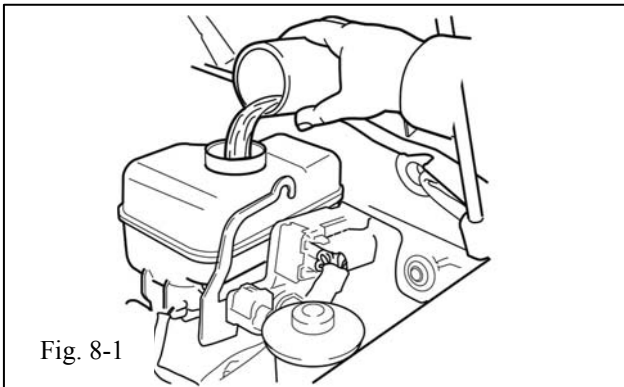

Fig. 8-1
- (a) Fill reservoir with brake fluid. Fluid: SAE J1703 or FMVSS No. 116 DOT3 (Fig. 8-1). Do not overfill.